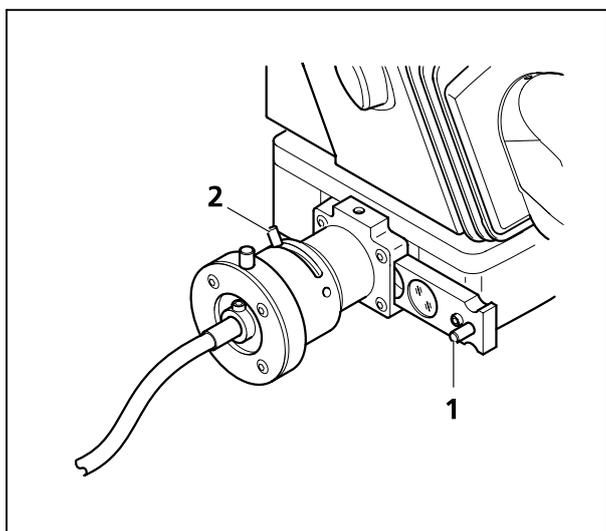

Fig. 34 Adjusting the vertical illuminator
Before swinging in another filter block, make sure to pull the slider (Fig. 34/1) on the vertical illuminator always to the frontmost position (blocking position).
1. Pull slider (Fig. 34/1) on PentaFluar vertical illuminator into the frontmost position (blocking position).
6. Open the iris diaphragm (Fig. 34/2) of the vertical illuminator completely by pushing the lever fully back.
- Pull slider (Fig. 34/1) on vertical illuminator into its frontmost position (blocking position).
- Push the slider on the PentaFluar vertical illuminator (Fig. 34/1) into mid-position (working position).
- Open the iris diaphragm (Fig. 34/2) of the vertical illuminator completely by pushing the lever fully back.